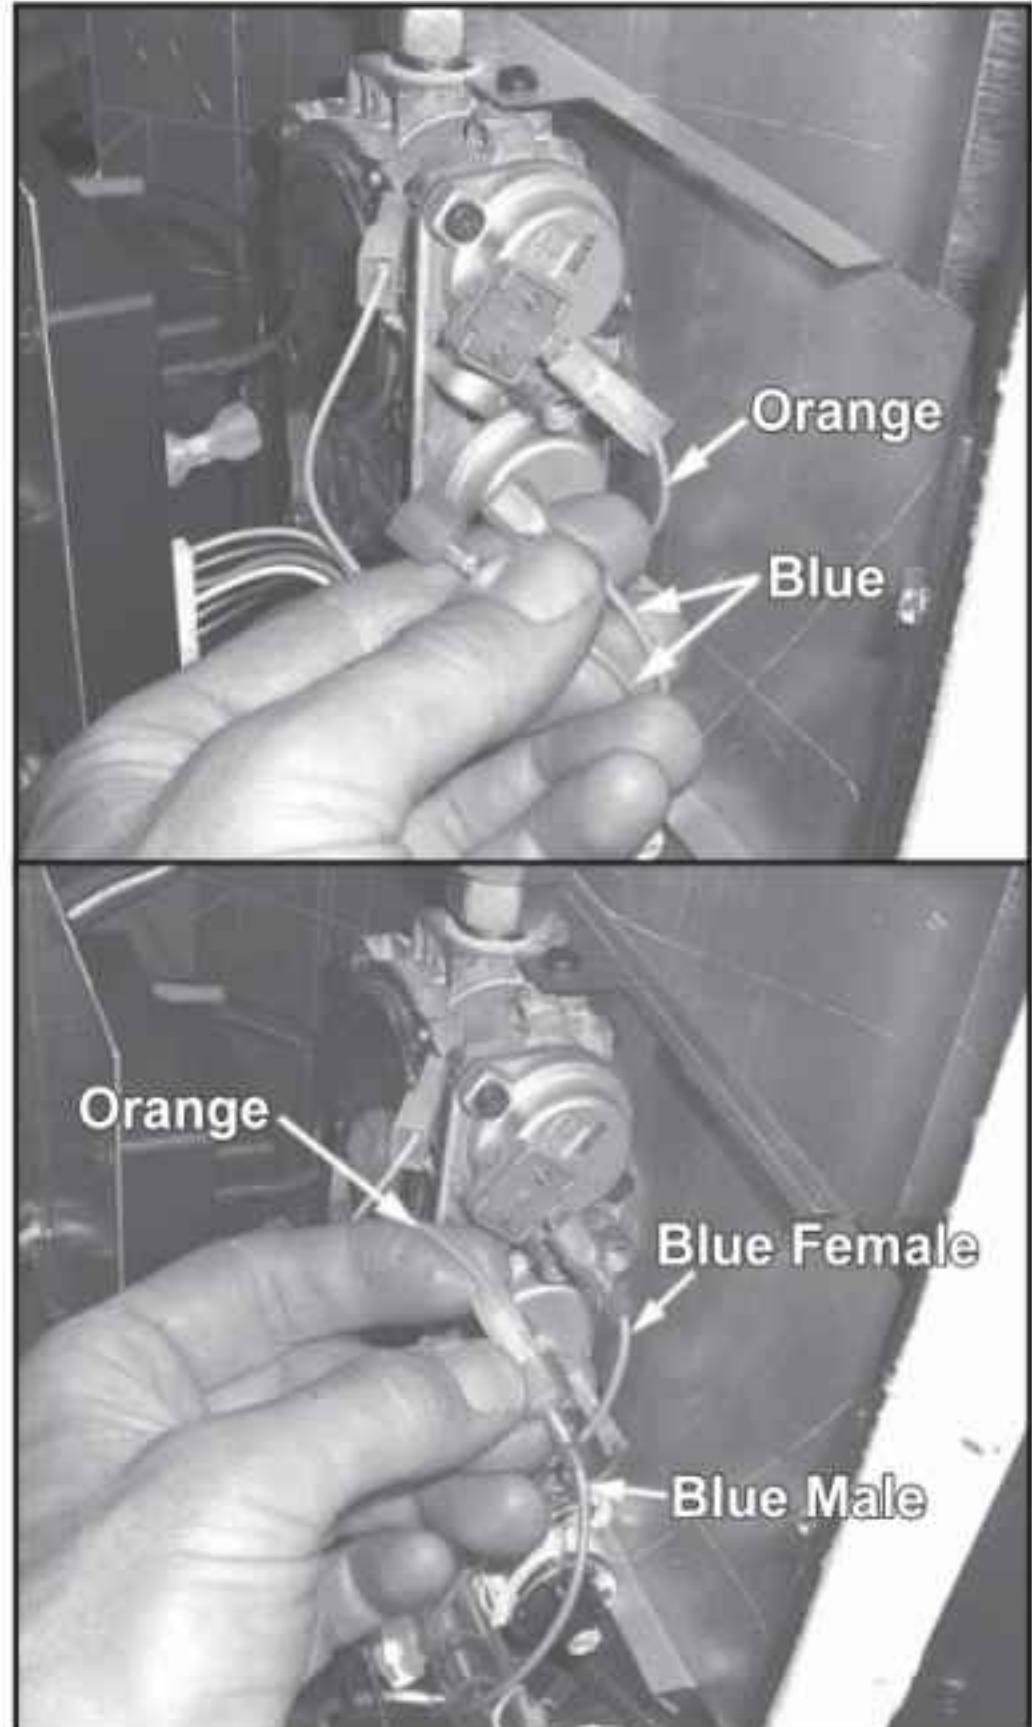

Figure 16: Changing Valve Wiring.
- d) Disconnect the  $3/16"$  connector from the valve and connect the two (2) blue wires as shown in Figure 16.